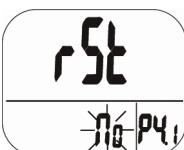

Fig. 17. no reset
- Press SET to enter P4.1 mode with blinking "No" (default), see Fig. 17, so that no reset will be done.